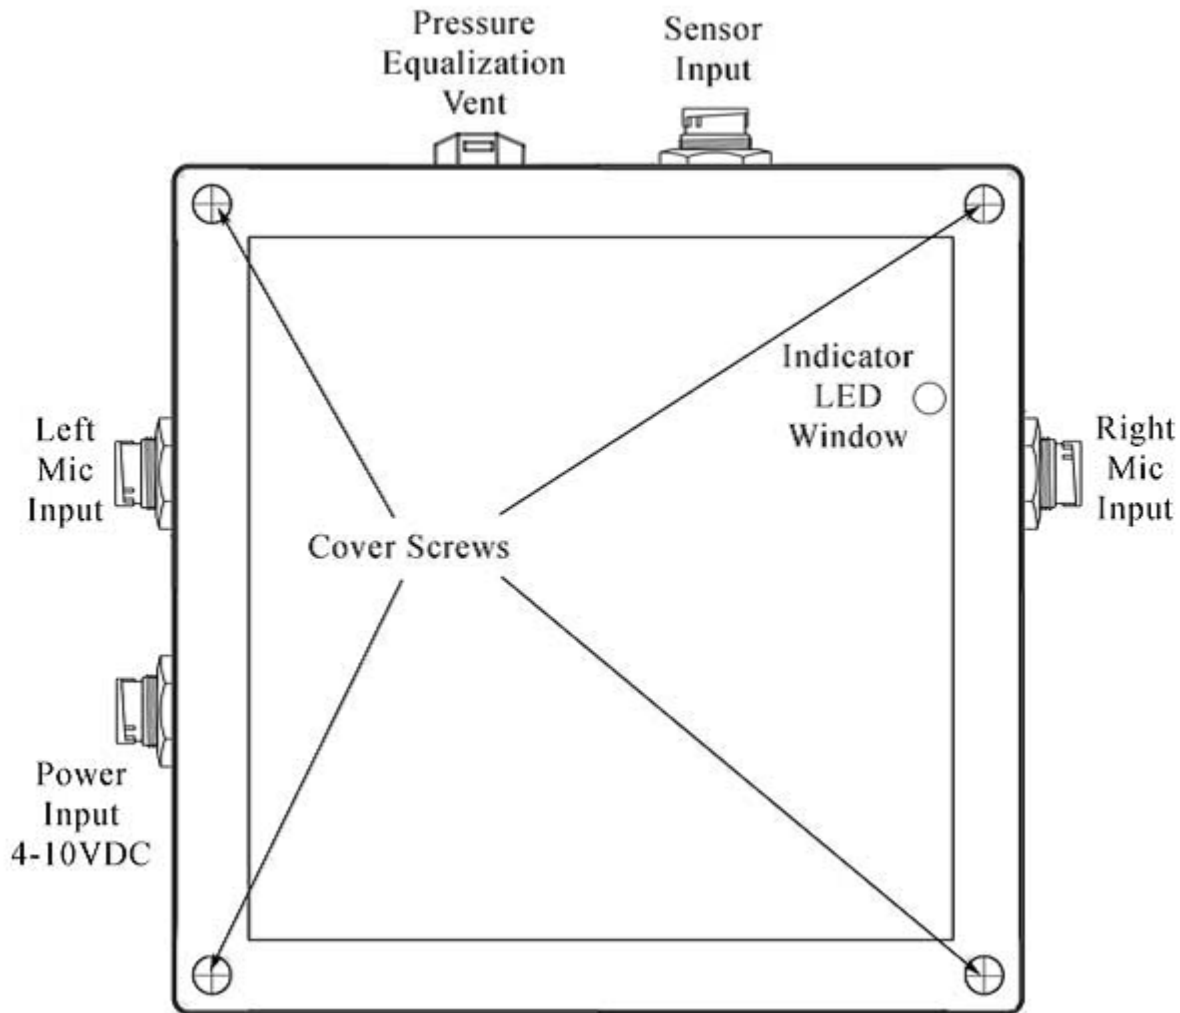

Figure 1. Microphone and sensor placement.
2. Attach microphones to the Song Meter as shown in Figure 1 (and on p. 2 of the manual).